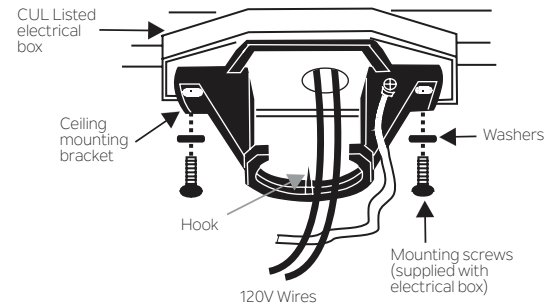

Fig. 6
**Step 3.** Pass the 120 volt supply wires from the ceiling outlet box through the center of the ceiling mounting bracket. (Fig.6)
**Step 4.** Attach the ceiling mounting bracket to the outlet box using the screws and washers included with the outlet box. (Fig. 6)